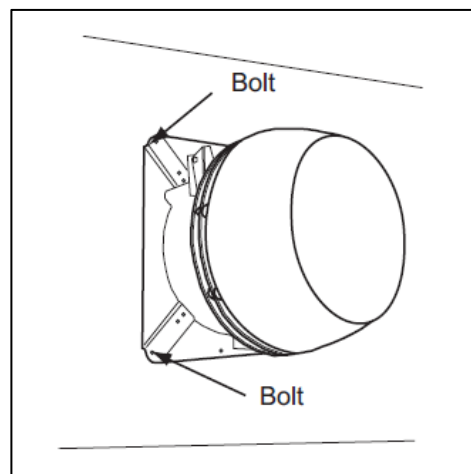

FIGURE 37
5. To ease installation, detach the fan base by removing the bolts holding the hinges together. Center the fan base over the outlet and bolt the base onto the wall with the hinges pointing upwards (**Figure 37**).